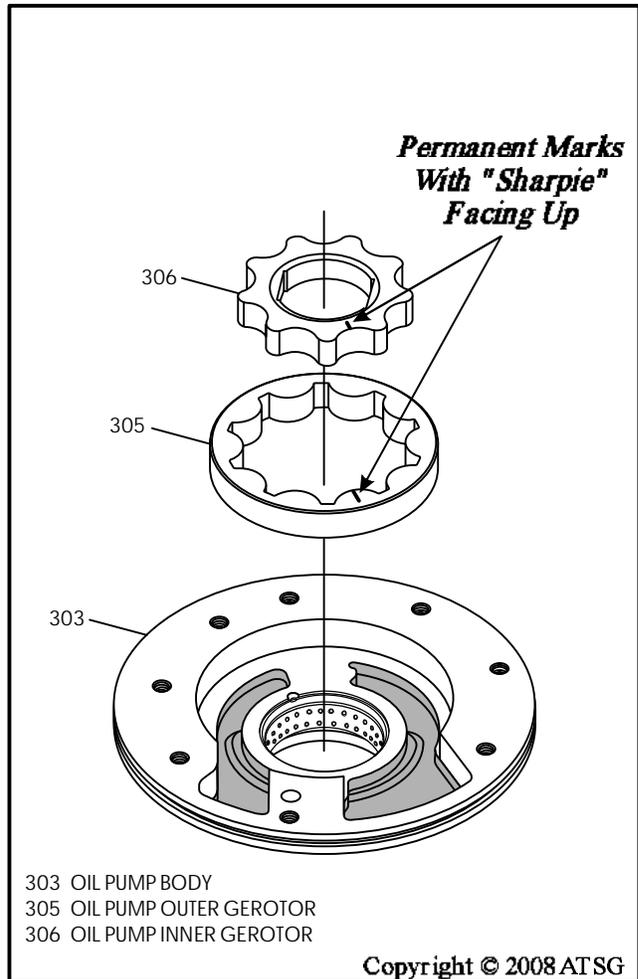

Figure 151
12. Lubricate the inner and outer gerotor with the proper fluid for the vehicle and install them in the oil pump body, as shown in Figure 151.
Note: Permanent marks with "Sharpie" previously made on gearset must face up, as shown in Figure 151.